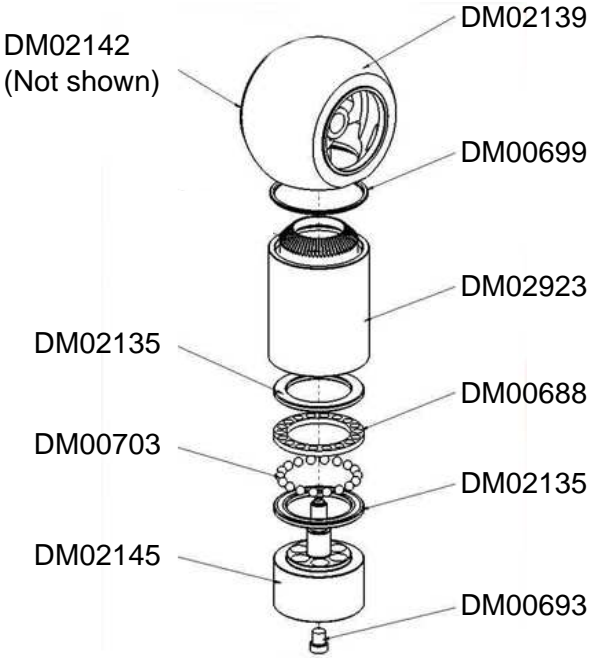

Figure 8: Main body and inlet shell
3. Lift shell and spider from ball and separate internal components to ensure all thrust bearing balls (DM00703) are retained. (Figure 8).